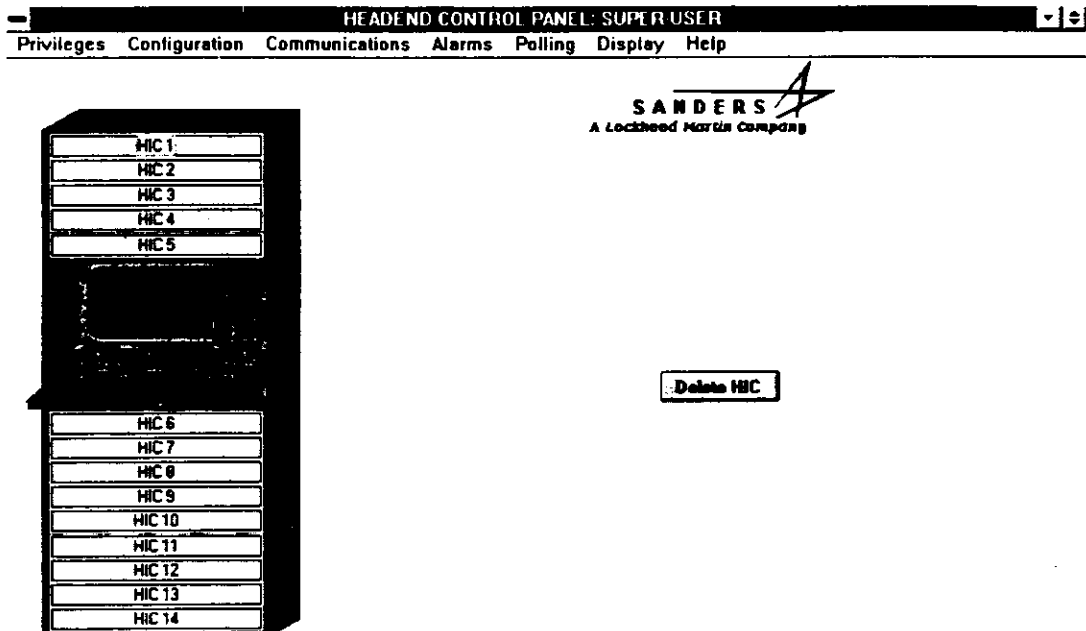

Figure 3-16. Typical HECU CONTROL PANEL Dialog
- d. At the HECU CONTROL PANEL dialog (Figure 3-16), double-click on appropriate HIC.